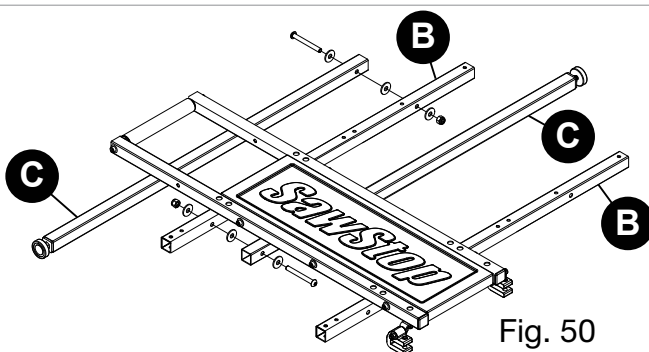

Fig. 50
- 15** Place one support leg (C) between the two table support tubes (B), with the open end of the support leg on the left and the leveling foot extending toward the right (from the perspective of a user of the table saw).
Align the mounting hole in the top of the support leg (C) with the support leg mounting hole in the table support tube (B) further from the table saw. Insert an M8 x 70 button head socket screw through an M8 x 20 washer, then through the exposed mounting holes in the table support tube, another M8 x 20 washer, the exposed mounting holes in the support leg, another M8 x 20 washer, and an M8 lock nut (see Fig. 50). Use a 5mm hex L-wrench on the socket screw and a 13mm wrench on the nut to tighten the lock nut until the support leg can pivot, but still moves with some resistance.